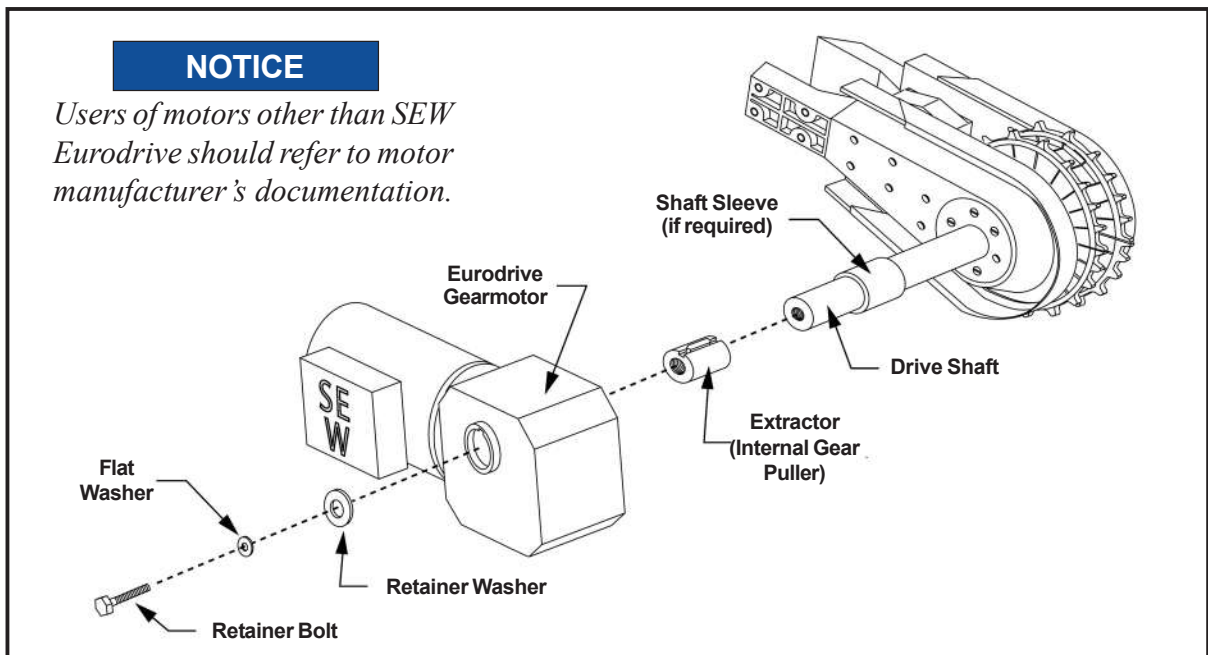

Figure 34: SEW Eurodrive gearmotor assembly
- Assemble the components as follows; refer to the exploded view in *Figure 34*.